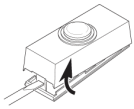
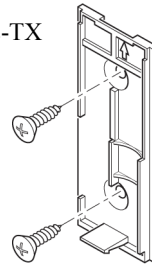

Figure 1
Figure 4
- 1. Install alkaline type A23 12 volt push button battery (included).** Remove back of case by pushing in tab on bottom with a small screwdriver (see Figure 1). See diagram inside push button for correct battery orientation. *Note:* If batteries are preinstalled, remove orange battery tab.
- **Screw Mounting:** To mount with screws, remove back of case by pushing in tab on bottom with a small screwdriver (see Figure 1). *Note:* Remove material in screw holes (if needed) before mounting with screws. Attach back of case to door jamb or wall (see Figure 4). Snap front of push button on.